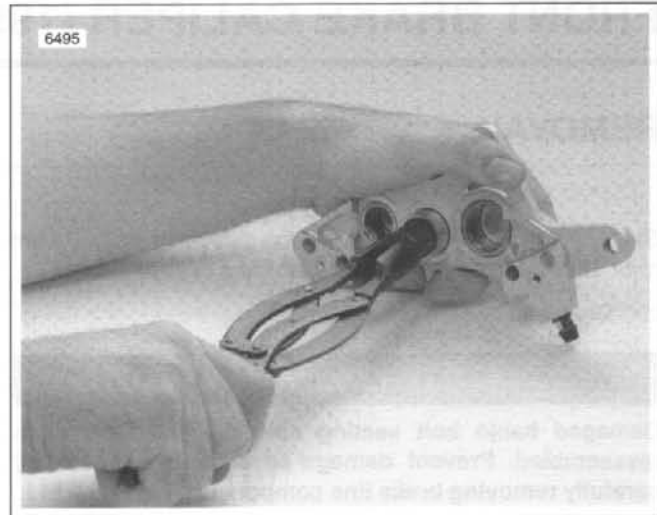

Figure 2-36. Removing Pistons
3. See Figure 2-36. Use BRAKE CALIPER PISTON REMOVER (Part No. B-42887) without adaptor to pull the six pistons from caliper bores.